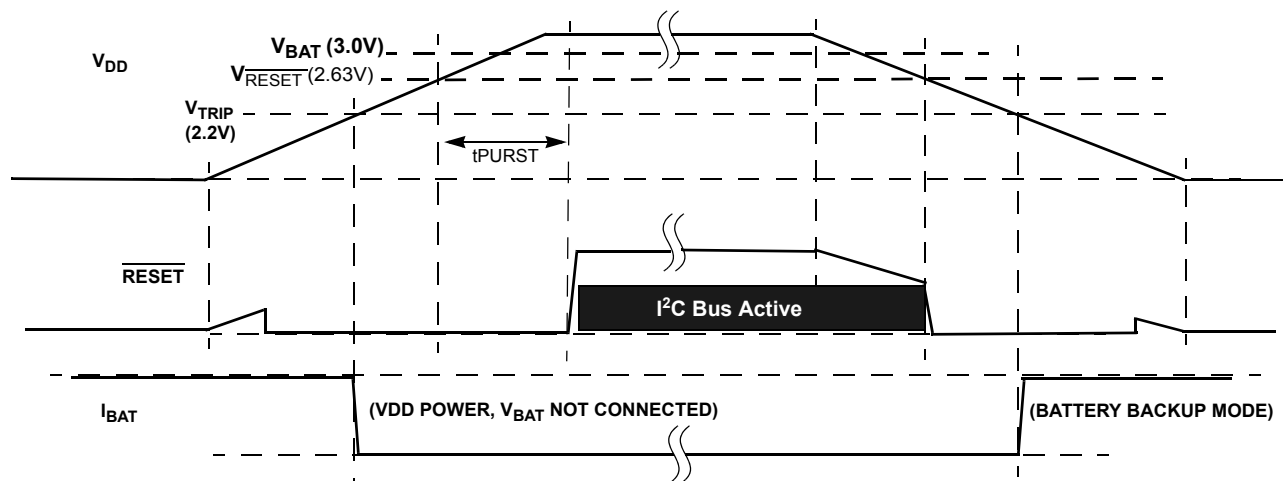

FIGURE 29. EXAMPLE RESET OPERATION IN MODE A OR C
- **Mode A** - In this mode, selection bits indicate a low V_{DD} switchover combined with I²C operation in battery backup mode. In actuality the V_{DD} will go below V_{RESET} before switching to battery backup, which will disable I²C ANYTIME the device goes into battery backup mode. Regardless of the battery voltage, the I²C will work down to the V_{RESET} voltage (see Figure 29).
- **Mode D** - In this mode, the selection bits indicate switchover to battery backup at $V_{DD} < V_{BAT}$, and no I²C communications in battery backup. This mode is unique in that there is I²C communication as long as V_{DD} is higher than V_{RESET} or V_{BAT} , whichever is greater. This mode is the safest for guaranteeing I²C communications only when there is a Valid V_{DD} (see Figure 29).